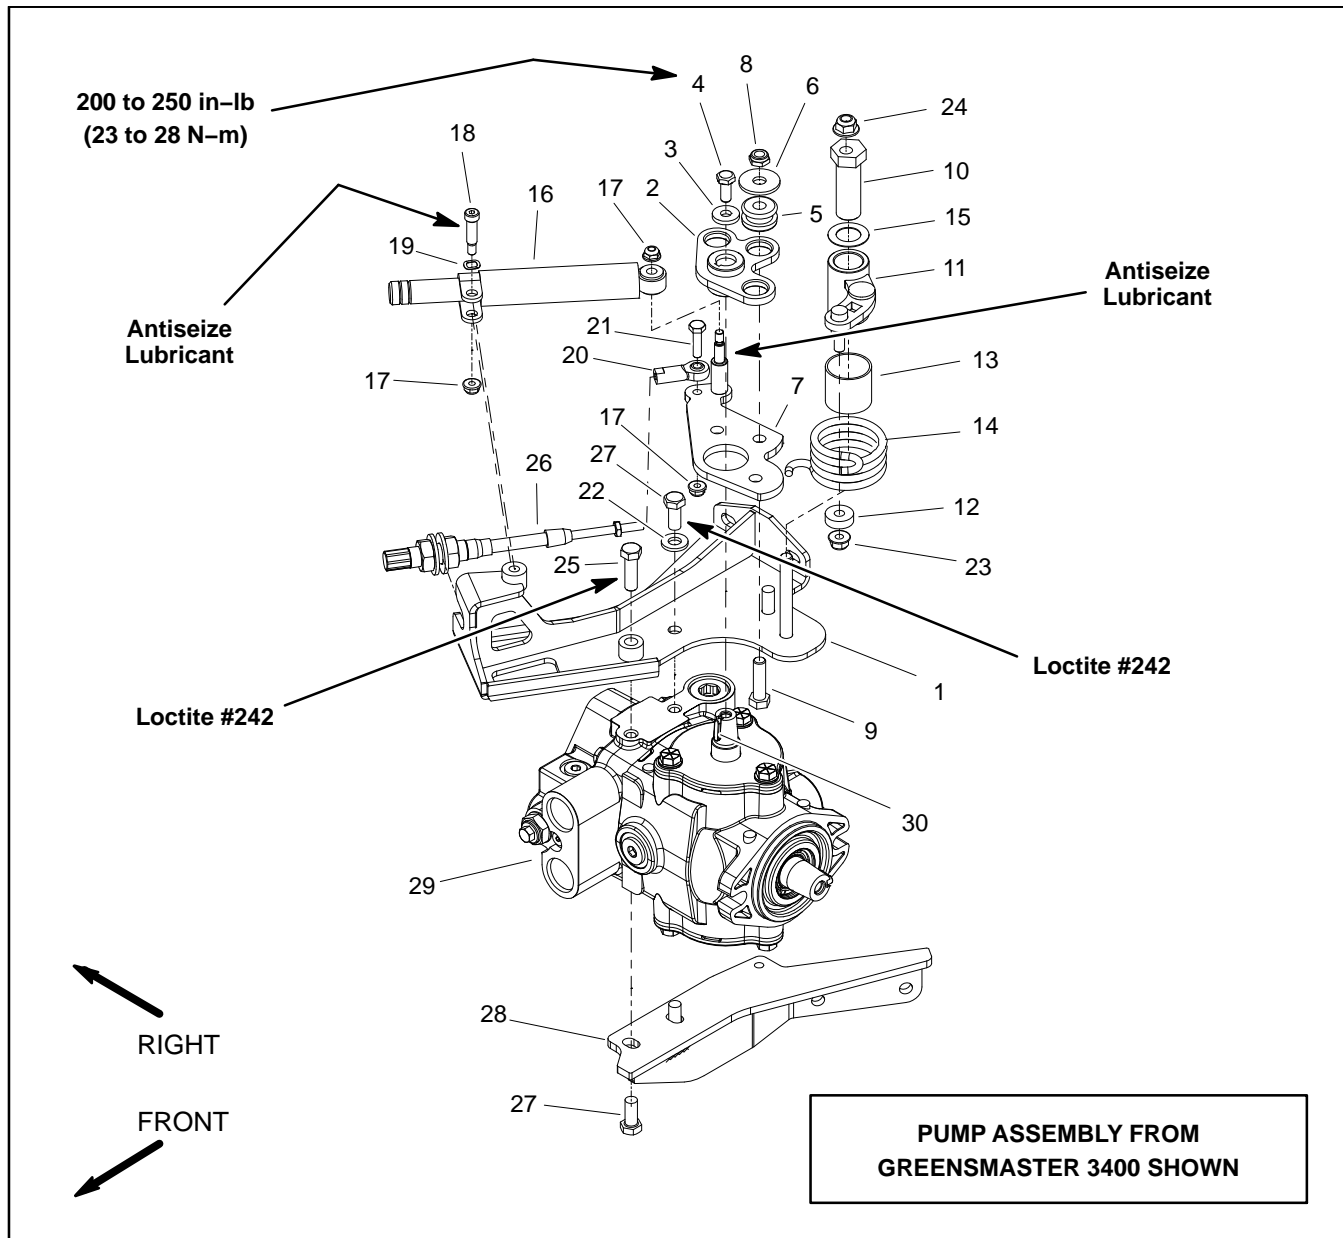

Figure 42
**NOTE:** The piston pump neutral assembly used on all Greensmaster TriFlex machines are very similar. The pump assembly from the Greensmaster 3400 machine is shown in Figure 42.
### Disassembly (Fig. 42)
**The torsion spring (item 14) is under tension and may cause personal injury during removal. Use caution when removing the spring from the pump neutral assembly.**
2. Remove components from traction neutral assembly as needed using Figure 42 as a guide.
### Assembly (Fig. 42)
1. Install removed components to traction neutral assembly using Figure 42 as a guide along with the following: